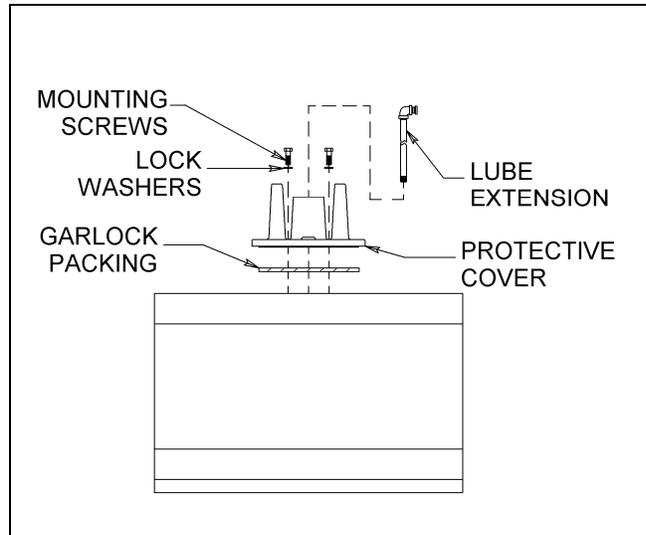

Figure 4: Install New Protective Cover
6. Remove the existing Lube Extension, if applicable (see Figure 4).